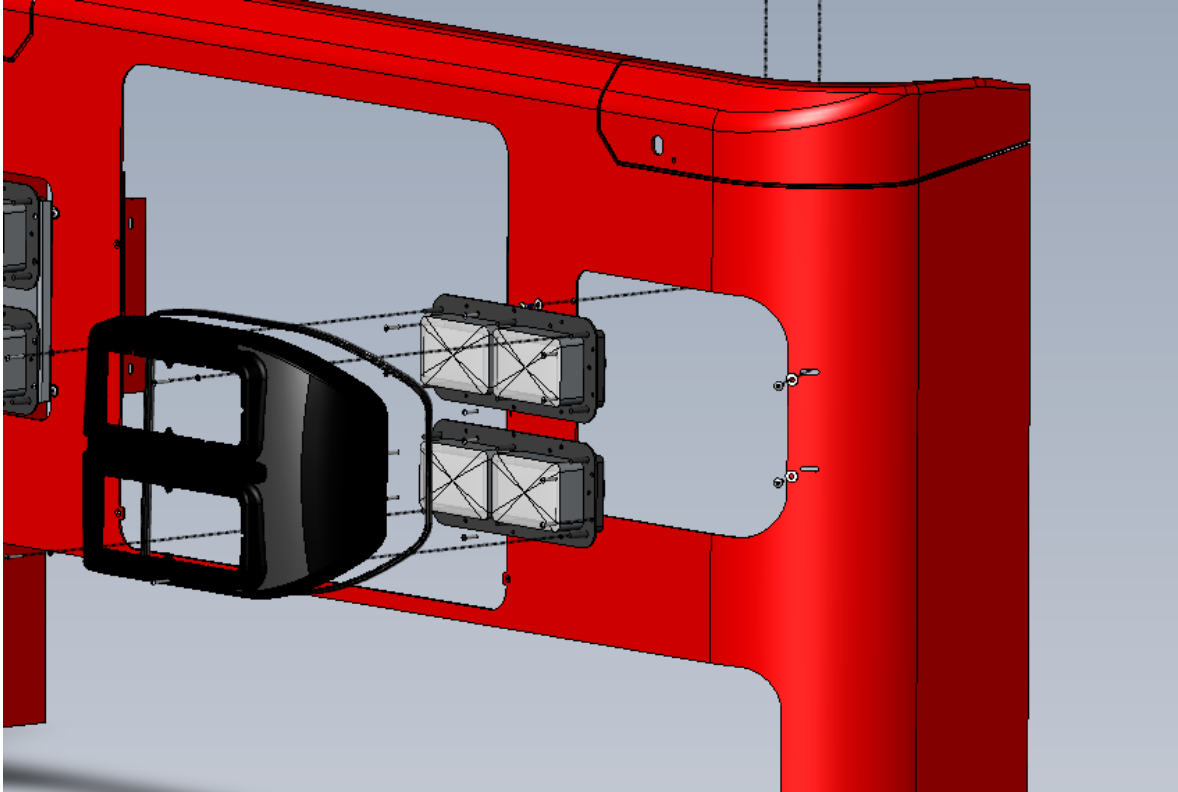

Figure 2.1
- 1) Remove left front headlight bezel and headlight bucket assembly. (See Figure 2.1)